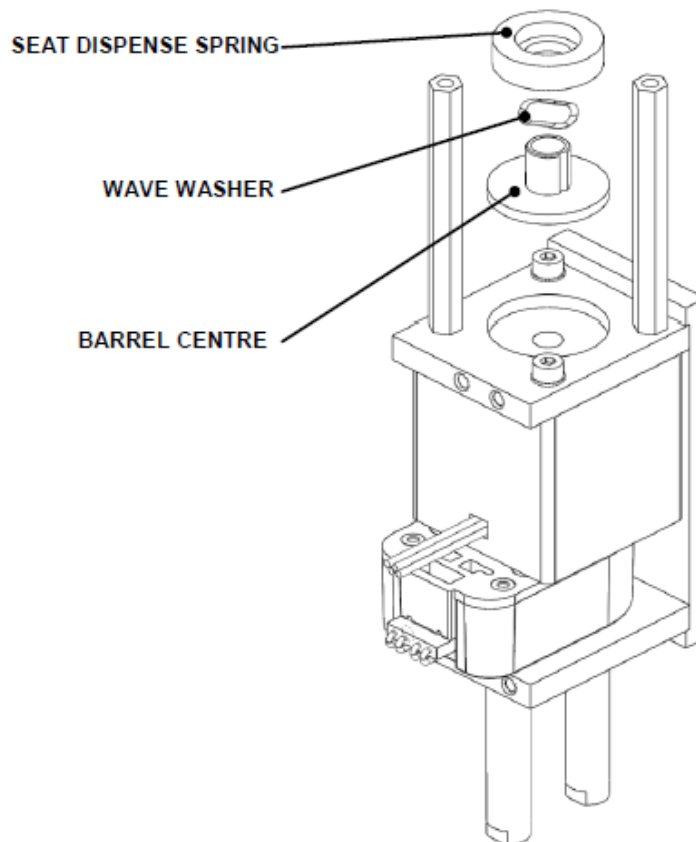

Figure U-19: Removing the Barrel Center
5. Remove the Barrel Center, related components and the standoffs (Figure U-19).
8. Locate the Barrel Center, Wave Washer and Seat Dispenser Spring on the motor front face (Figure U-19).